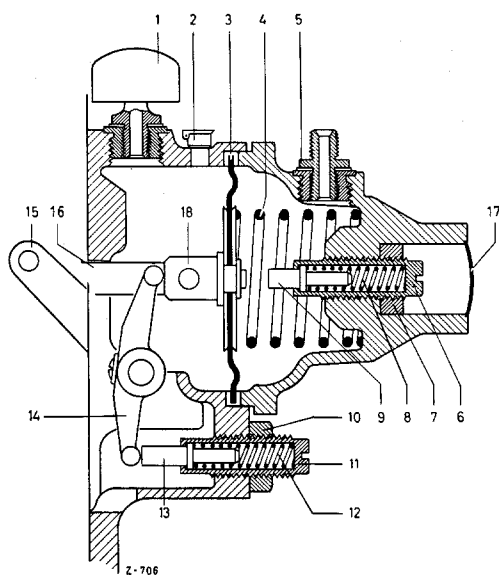

Figure 07-4/11
The throttle butterfly is fully opened, the speed is low and therefore the vacuum still weak. The control spring (4) presses the diaphragm (3) with the diaphragm bolt (18) by way of the double lever (14) against the stop bolt (13) of the sprung full load stop (11) (Figure 07-4/11). The adapting spring (5) in the diaphragm bolt (3) is still compressed by the force of the control spring. The engine receives the full injection rate (Figure 07-4/12).